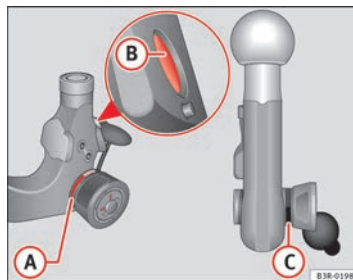

Fig. 156 Removable
- Check that the red marking **(A)** ⇒ page 198, fig. 156 on the knob is inside the black zone marked on the ball joint.